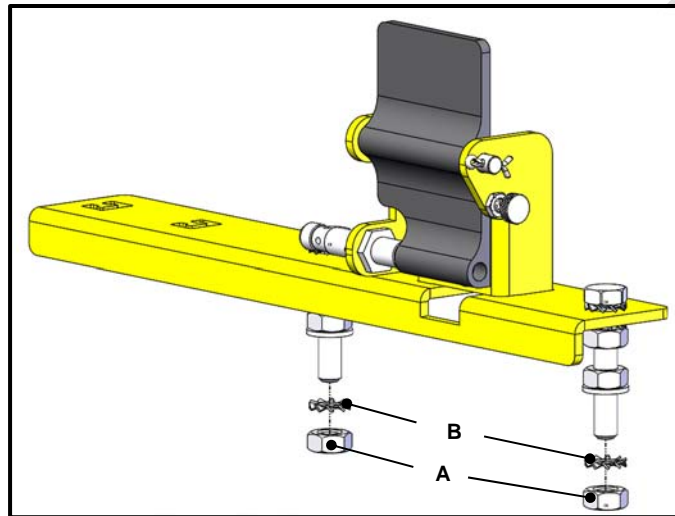

Figure 2-2 Collision Avoidance Device (466D911) Installation Step 1
1. Loosen and remove the two M10 Nuts (A) and M10 Tooth Washers (B) leaving the rest of the Jacking Screw Arrangement as shown in Figure 2-2.